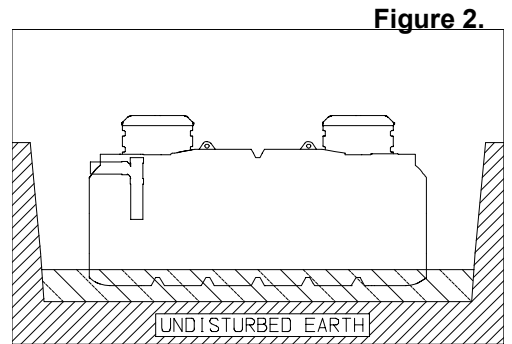

Figure 2.
3. Lid and Manhole Extension [Figure 2]